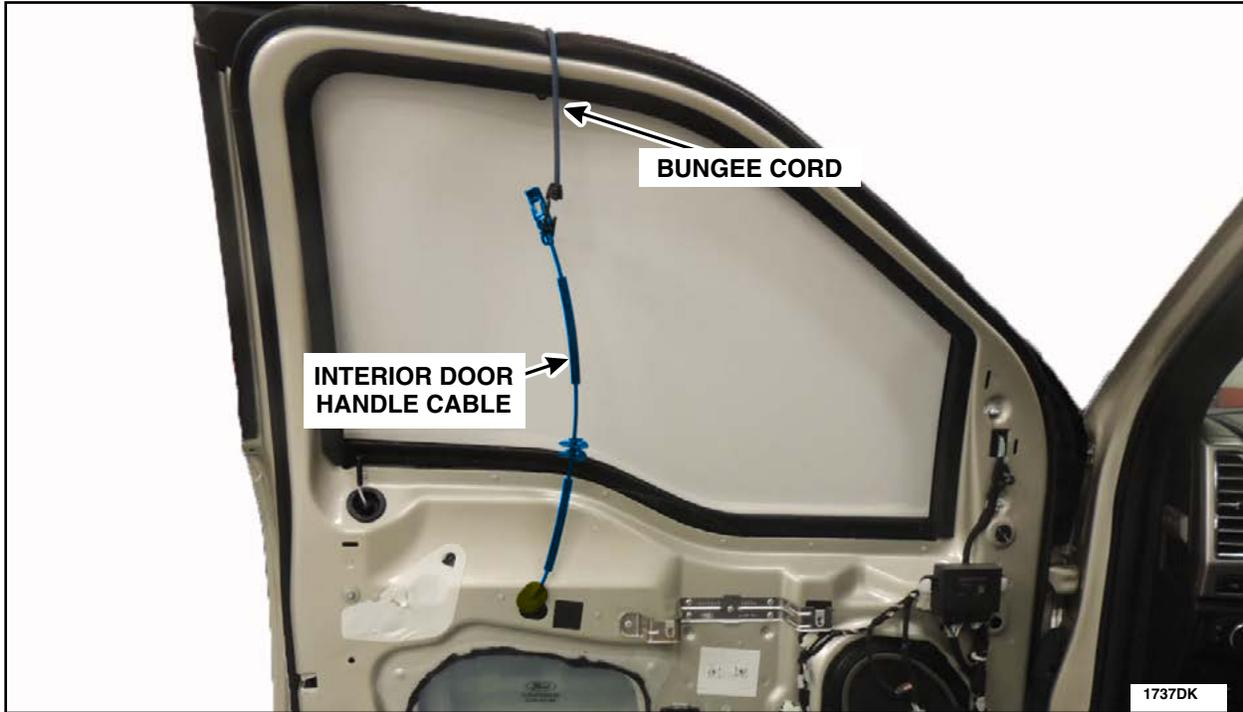

FIGURE 42
- Using a bungee cord or other similar device, secure the interior door handle cable to the door in an upward position to allow the Motorcraft® XL-6 Lubricant time to run down into the cable, until the interior door handle cable is reinstalled later in this procedure. See Figure 42.